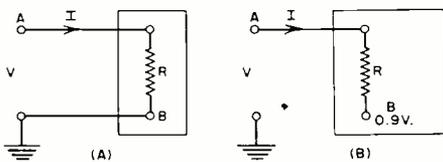

Fig. 1. Equivalent circuits, emitter-follower.
Fig. 1. (A) All components tied to the control connections may be installed in a small box located at a remote distance from equipment being controlled. (B) The d.c. for "Raysistor" may be obtained from the heater circuit.
Let us consider first how we can increase the input impedance of an emitter-follower. Fig. 1 represents such a transistor circuit having an equivalent input resistance  $R$ .